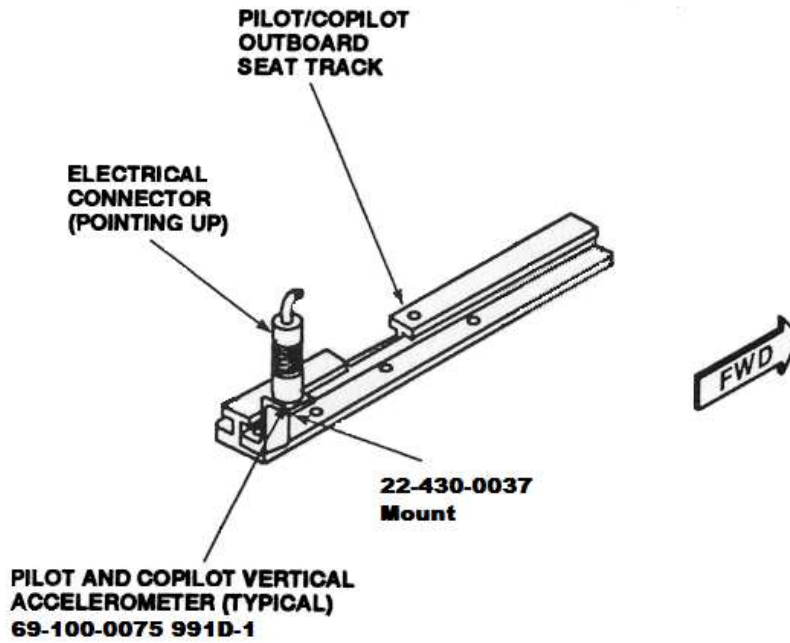

Figure 3
8. Mount a 991D-1 Vibration Sensor (P/N 69-100-0075) and Vibration Sensor “Z” Mount (P/N 22-430-0037) to the co-pilot’s outboard seat track. (See Figure 3) The sensor connector must face UP. Connect the 25’ Vibration Sensor Cable (P/N 10-320-0162) to the Sensor and route to the analyzer. Secure cable with tape or tie wraps. Connect the cable to Channel A on the analyzer.
9. Mount a 991D-1 Vibration Sensor (P/N 69-100-0075) and Vibration Sensor “Z” Mount (P/N 22-430-0037) to the pilot’s outboard seat track. (See Figure 3) The sensor connector must face UP. Connect the 50’ Vibration Sensor Cable (P/N 10-320-0163) to the Sensor and route to the analyzer. Secure cable with tape or tie wraps. Connect the cable to Channel B on the analyzer.